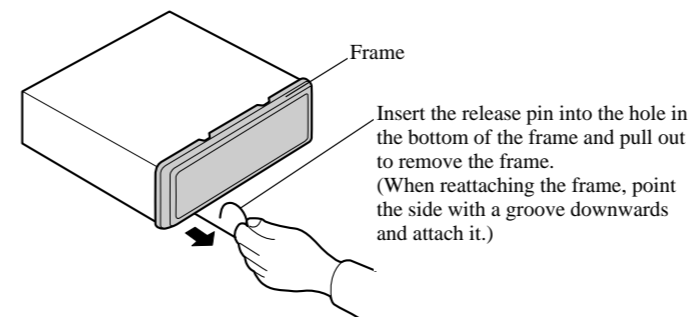

Fig. 11
**1. Remove the frame. (Fig. 11)**